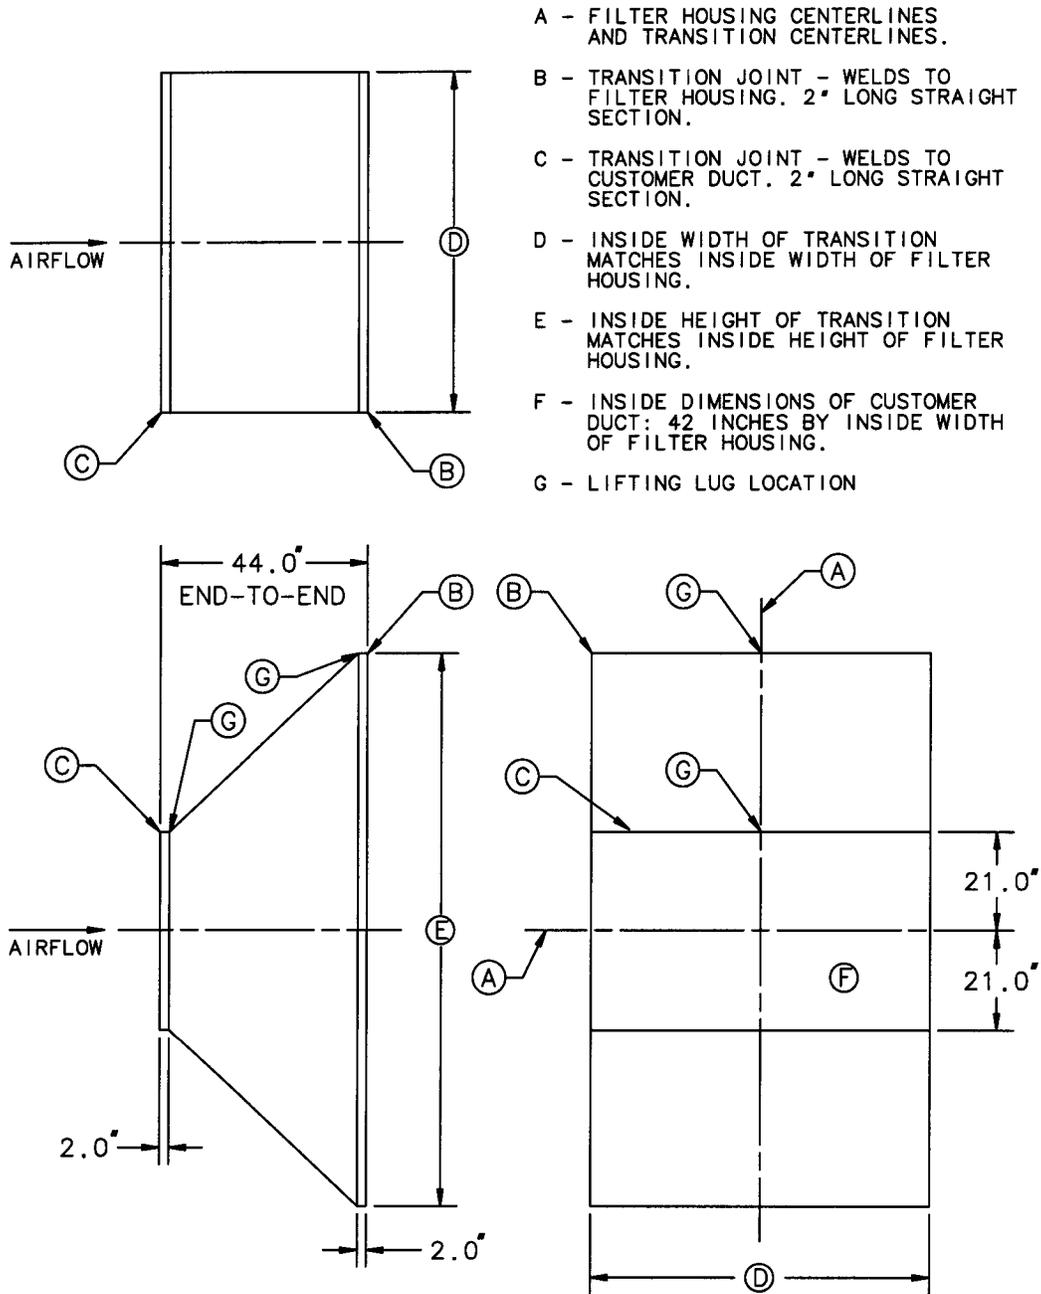

Figure 1. Filter housing welded inlet transition.
- 8.8 Dimensions for the inlet transition are specified in Figure 1.
- 8.10 Two lifting lugs shall be provided on each transition. The lugs shall be located on the vertical centerline of the transition and spaced approximately as shown in Figures 1 and 2. The lifting lugs shall not interfere with welding the transition to the housing.